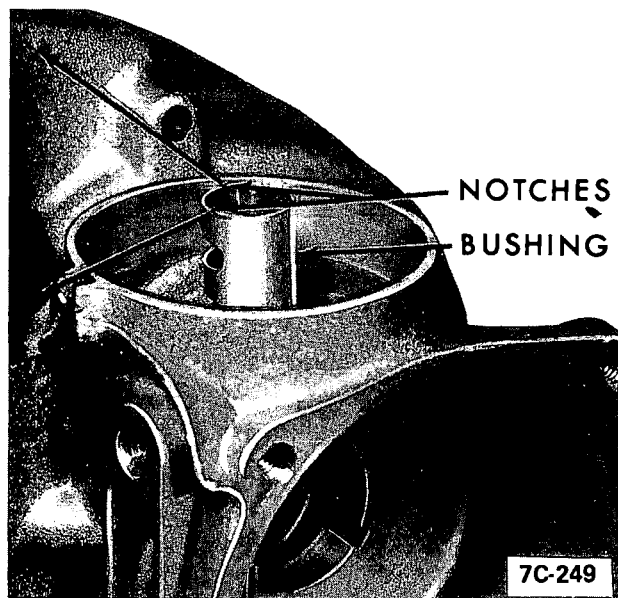

Figure 7C-199
c. Use J-22976-3 alignment arbor and bushing installer to drive the bushing into the case. See Figure 7C-200. A brass hammer should be used to strike the hardened steel bushing installer tool.